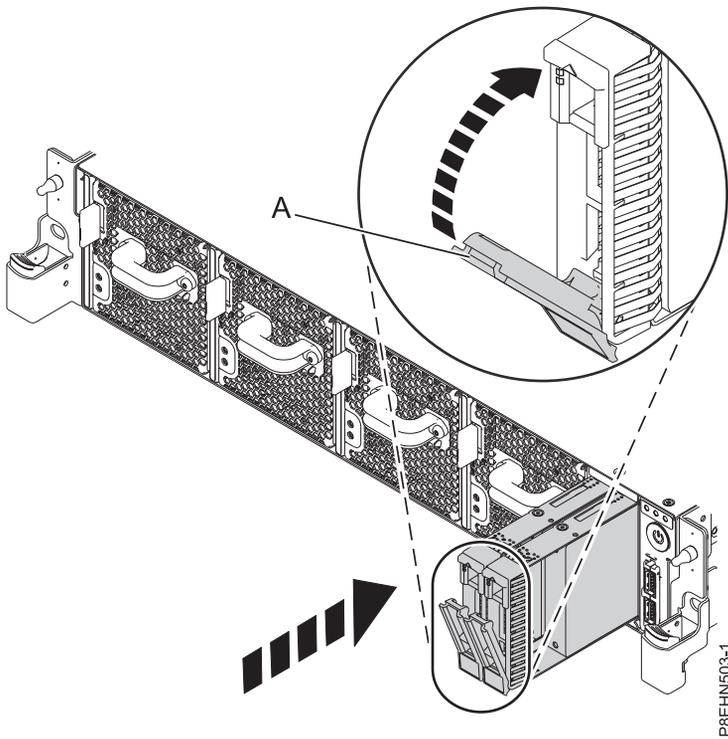

Figure 24. Locking the drive bay handle
5. Slide the drive all the way into the system, and push the drive bay handle (A) in until it locks. See Figure 24 on page 18.